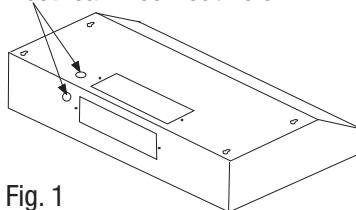

Fig. 1
2. Use a hammer and flat tipped screwdriver to gently punch out the appropriate electrical knock-out hole (figure 1). Be very careful not to leave any broken pieces inside the range hood.